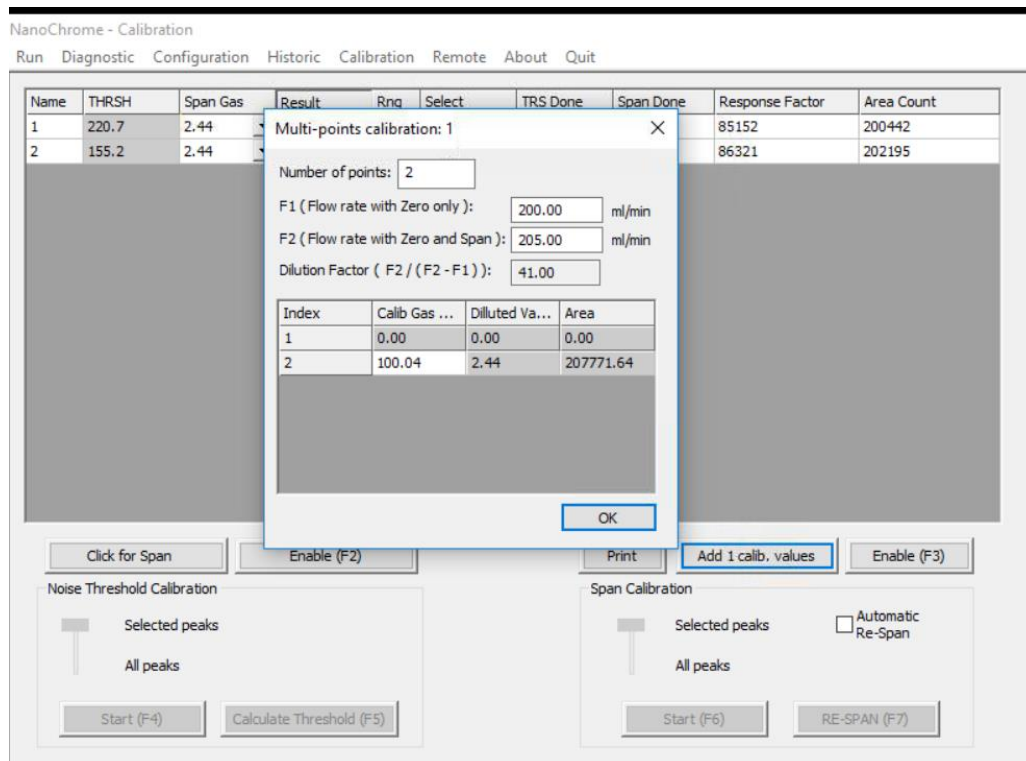

Figure 40 : Calibration-Span menu
**Diluted Value:** equals the **Calib Gas Value** column divided by the **dilution factor** (see Figure 40).
3. Click on the **Add “*peak name*” calib values** button and a pop-up menu will appear (see Figure 40).